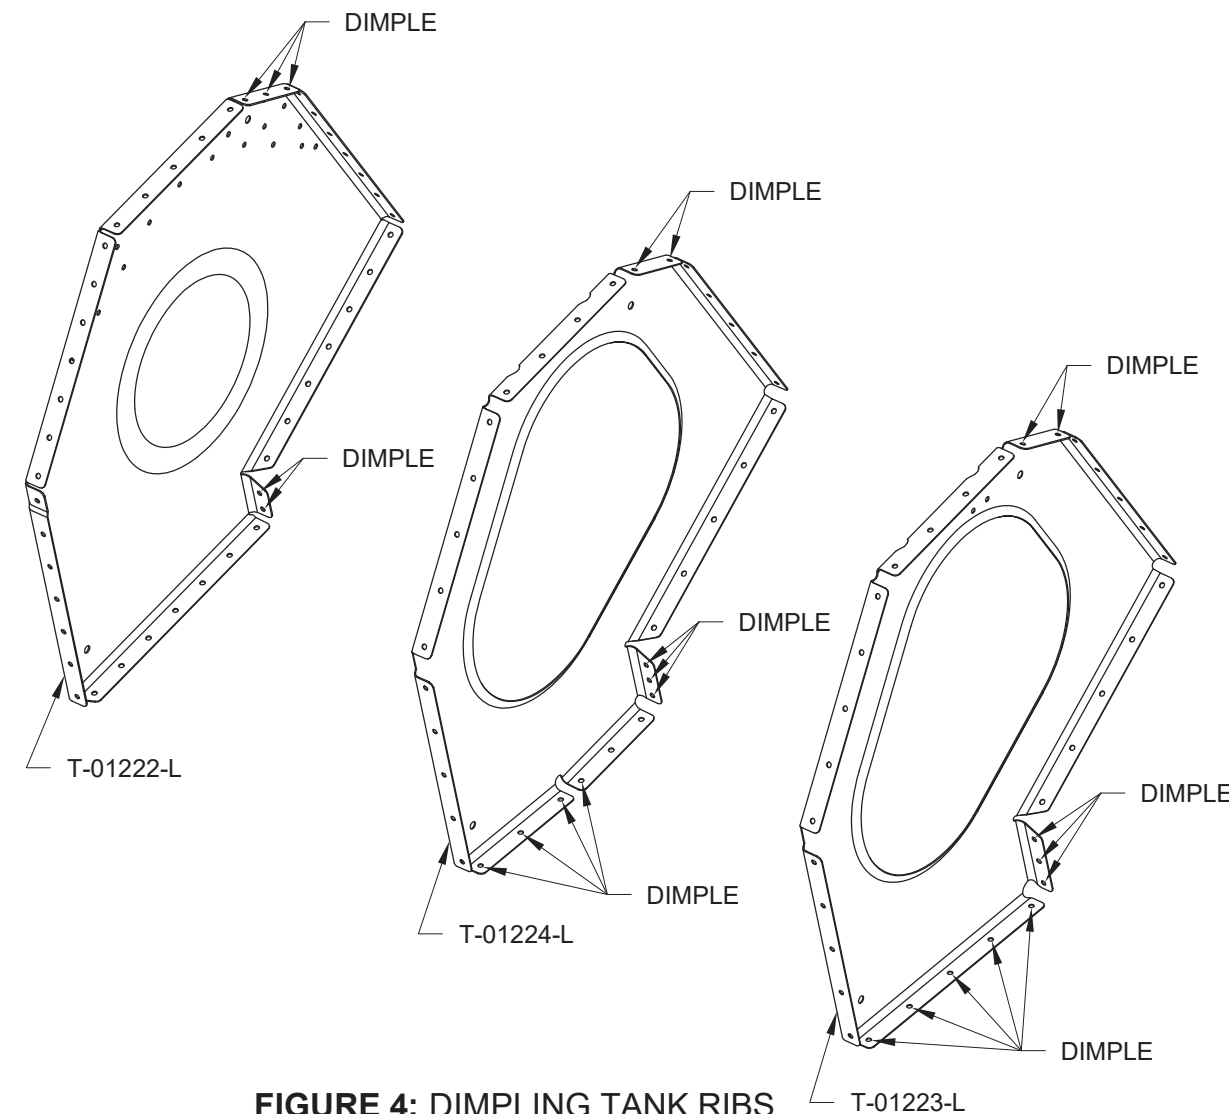

FIGURE 4: DIMPLING TANK RIBS
Step 4: Dimple the T-01222-L & -R, T-01224-L & -R, and T-01223-L & -R to accommodate the dimples in the T-01221A and T-01221B as called out in Figure 4. Only the ribs on the left side of the fuel tank are shown in the figure, mirror the dimpling operations for the right side.